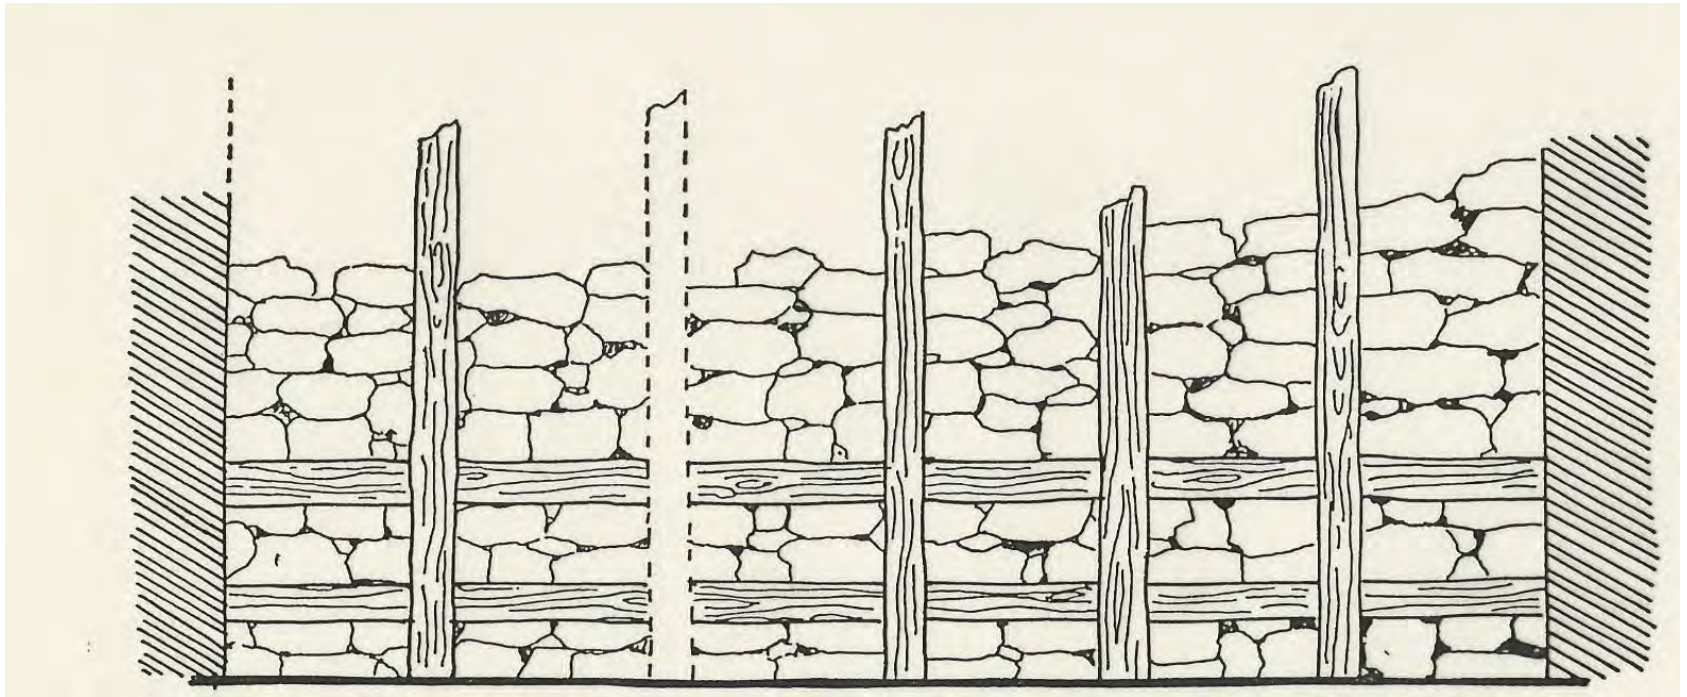

Fig.15. Spread timber reinforcement of rubble masonry, Mycenean Thēbes, (Martin)
- Masonry reinforcement, (Fig. 15)